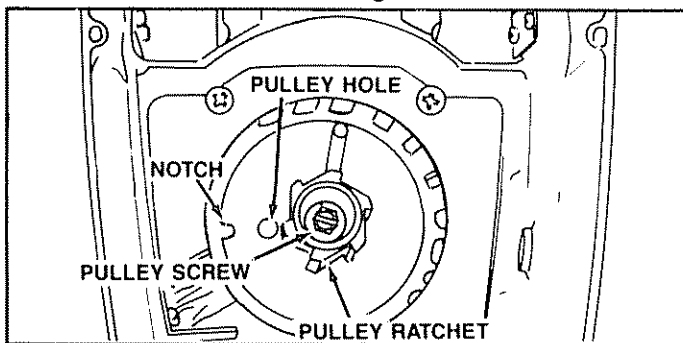

Figure 17
- If the starter rope is not broken, release the spring's tension by pulling about 10 inches of rope from the pulley and catching the rope in the notch as shown. Figure 17. If the rope is broken, remove the broken piece.
- Remove screw and pulley very carefully. Figure 17. **The recoil spring which lies beneath the pulley must stay in the housing, flat against the bottom. If the spring is disturbed, it will require considerable time and effort to reinstall.** Twist the pulley gently counter clockwise ← as you pull up to release the spring.
- Replace and tighten pulley screw. Figure 17.